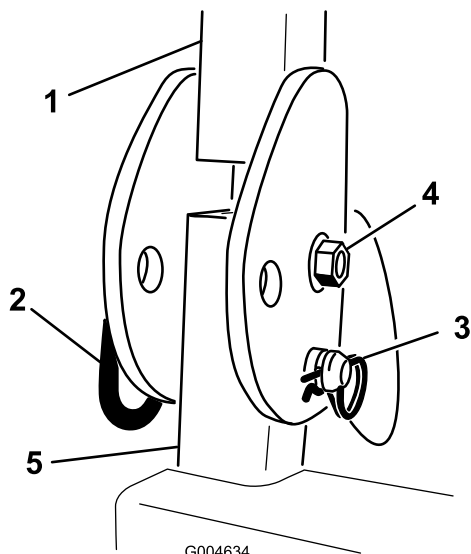

Figure 94
39. Position the ROPS assembly onto the ROPS posts. Install the bolt, nut, hair pin cotter and pin securing each ROPS assembly to the ROPS posts (Figure 94).